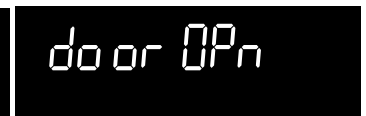

Fig. 4
2. Once the oven has cooled (about 1 hour) and "**Hot**" is no longer displayed the "**door OPn**" message will appear (Fig. 4). When this message turns off the door is finished unlocking. Use **caution** and avoid possible burns when opening the door after the self-cleaning cycle. The oven may still be **VERY HOT**.